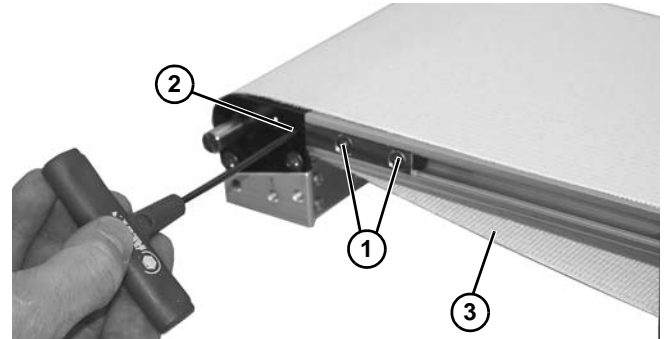

Figure 37
1. Loosen two screws (Figure 37, item 1) on both sides of conveyor.
2. Loosen tensioning screw (Figure 37, item 2) to loosen tension on belt (Figure 37, item 3).